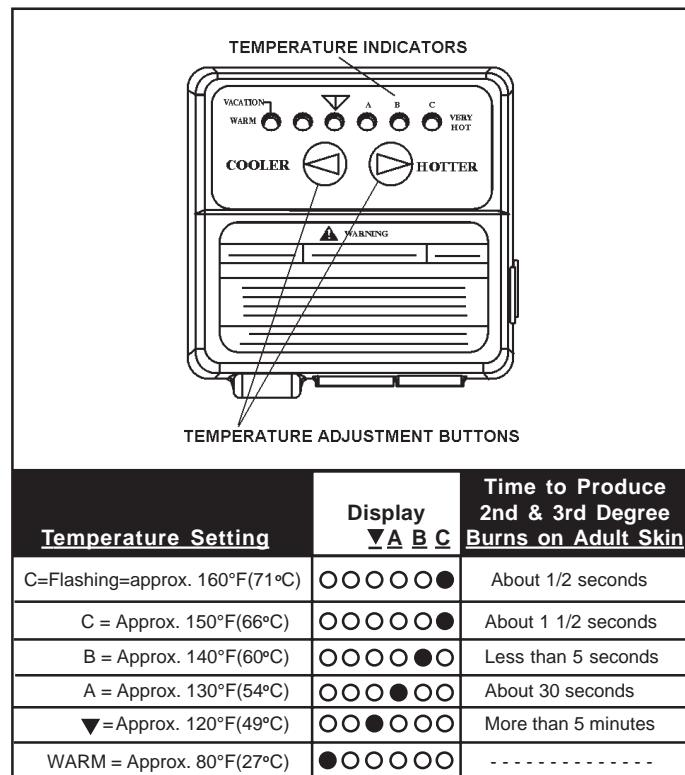

FIGURE 28.
Figure 28 shows the approximate water temperatures produced at various thermostat dial settings. Short repeated heating cycles caused by small hot water uses can cause temperatures at the point of use to exceed the thermostat setting by up to 30°F (-1°C). If you experience this type of use you should consider using lower temperature settings to reduce scald hazards.
1. "Wake Up" the temperature indicators by holding down both "COOLER" and "HOTTER" temperature adjustment buttons at the same time for one second, see Figure 28. One or two of the temperature indicators will light up. These indicators will only remain on for 30 seconds if no further buttons are pressed. After 30 seconds the control will go back to "Sleep" mode.